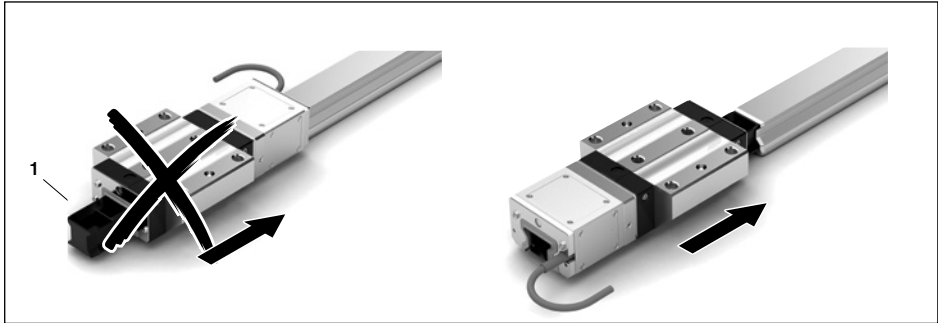

Fig. 6: Pushing the runner block onto the rail
- ▶ Position the runner block with transport lock (1) against the guide rail.
- ▶ Push the runner block onto the rail ➡ Fig. 6
- ▶ Keep the transport lock (1) for later use during disassembly.